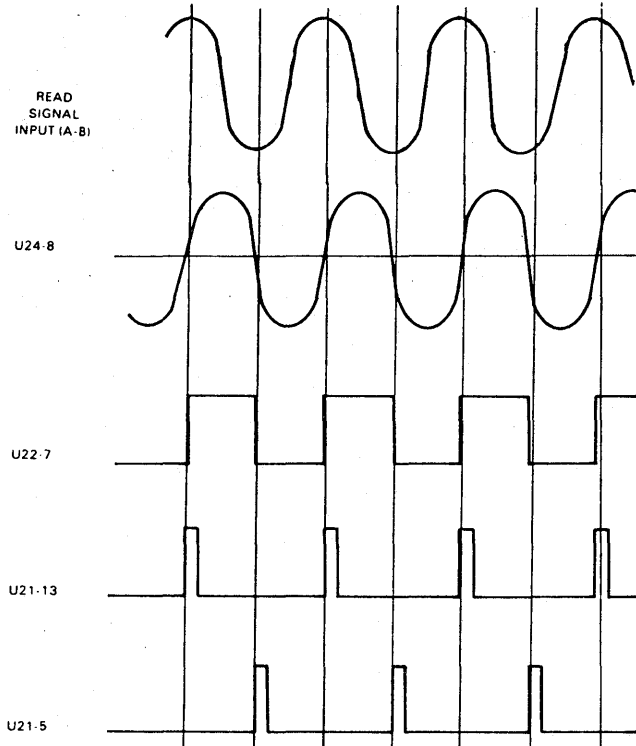

Figure 3-9. Single A Read Waveforms
- b. Differentiator. The differentiator consists of U24 and its associated components. This element, with U22 and U23, functions as a peak detector that generates the signal illustrated in the timing diagram of figure 3-9, which shows the read waveforms for a sequence of "1's." Thus the output of U24 crosses the zero-base line each time a peak is detected on the input signal. Capacitor C25 yields the required 6 dB per octave rising characteristic of a differentiator. Resistor R51 terminates this characteristic at 250 kHz. This stage has an approximate gain of 40 at 125 kHz.
- e. Comparator. The output of the amplifier is processed by low pass filter network R58, R59, C48, thus providing additional noise rejection for this stage. Comparator U22 converts the essentially sinusoidal wave shape input into a square wave. Figure 3-9 shows this waveform conversion and timing. Capacitor C34 and resistor R61 provide a delay for the output of U22. This compensates for the inherently longer turn-on delay of U22, thus providing a symmetrical square wave to the next stage.